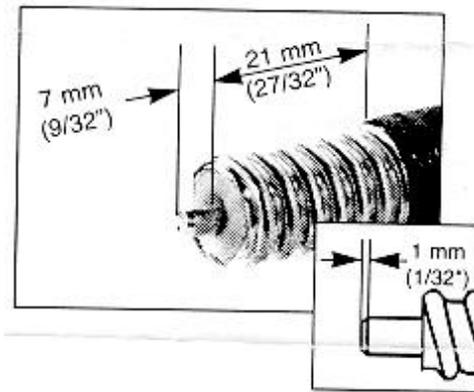

Figure C-4 Tapering inner conductor
- 6) Taper the inner conductor with a file and the nipper pliers, as shown in Figure C-4.